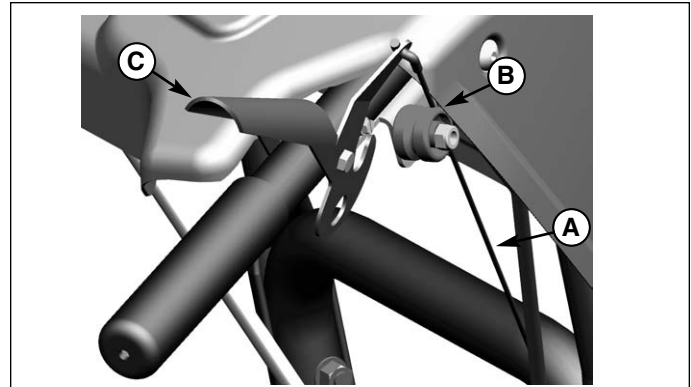

Figure 18. Auger Cable Button
1. Check that the auger cable (A, Figure 18) is on top of cable button (B) as show in Figure 18.